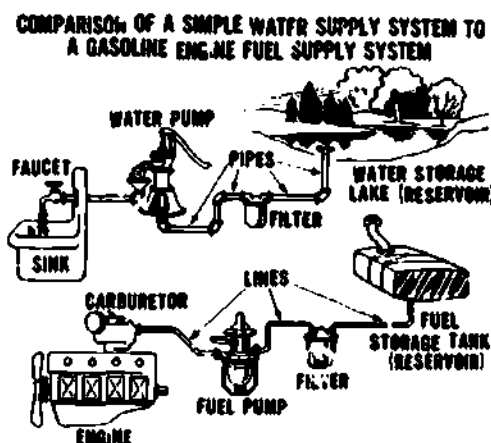

Fig 1-1. Fuel supply system.
a. Purpose. The fuel system stores liquid fuel and delivers it to the engine. In many ways a gasoline engine fuel system can be compared to a simple water supply system (fig 1-1). Notice in the illustration that both systems contain components that store and deliver fluids.